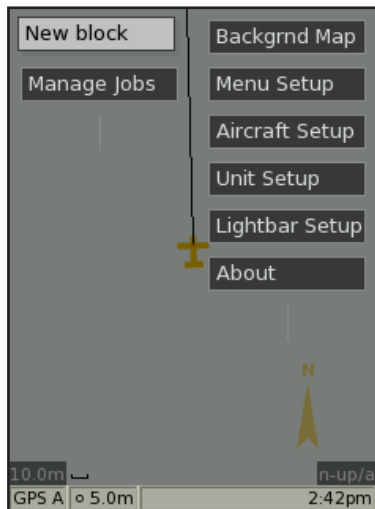

**fig 3.1.1**
3.1.1 When turned on default screen is **Flight screen** (fig 3.1.1).